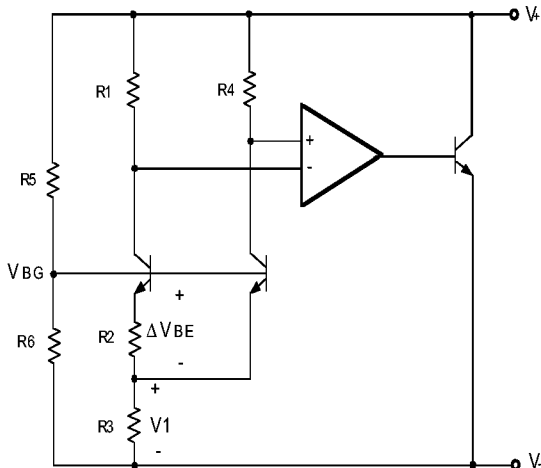

Figure 7. AD1586/7/8/9 Simplified Schematic
The AD1586/7/8/9 family uses the "bandgap" concept to produce stable, low-temperature coefficient voltage references which are suitable for high accuracy data-acquisition components and systems. This family of precision references makes use of the underlying temperature characteristics of a silicon transistor's base-emitter voltage in the forward-biased operating region. Under this condition, all such transistors have a  $-2 \text{ mV}/^\circ\text{C}$  temperature coefficient (TC) and a  $V_{BE}$  that, when extrapolated to absolute zero,  $0 \text{ }^\circ\text{K}$ , (with collector current proportional to absolute temperature) approximates the silicon bandgap voltage. By summing a voltage that has an equal and opposite temperature coefficient of  $+2 \text{ mV}/^\circ\text{C}$  with the  $V_{BE}$  of a forward-biased transistor, a zero TC reference can be developed. In the AD1586/7/8/9 simplified circuit diagram shown in Figure 7, such a compensating voltage,  $V_1$ , is derived by driving two transistors at different current densities and amplifying the resultant  $V_{BE}$  difference ( $\Delta V_{BE}$  - which has a positive TC). The sum ( $V_{BG}$ ) of  $V_{BE}$  and  $V_1$  is then scaled by the  $R_5/R_6$  resistor network to produce stable reference voltage outputs of 2.5V, 3V, 4.096V, and 5V. To ensure that the bandgap cell and resistor network maintain their required current levels, a buffer amplifier drives an output transistor to sink any excess current.